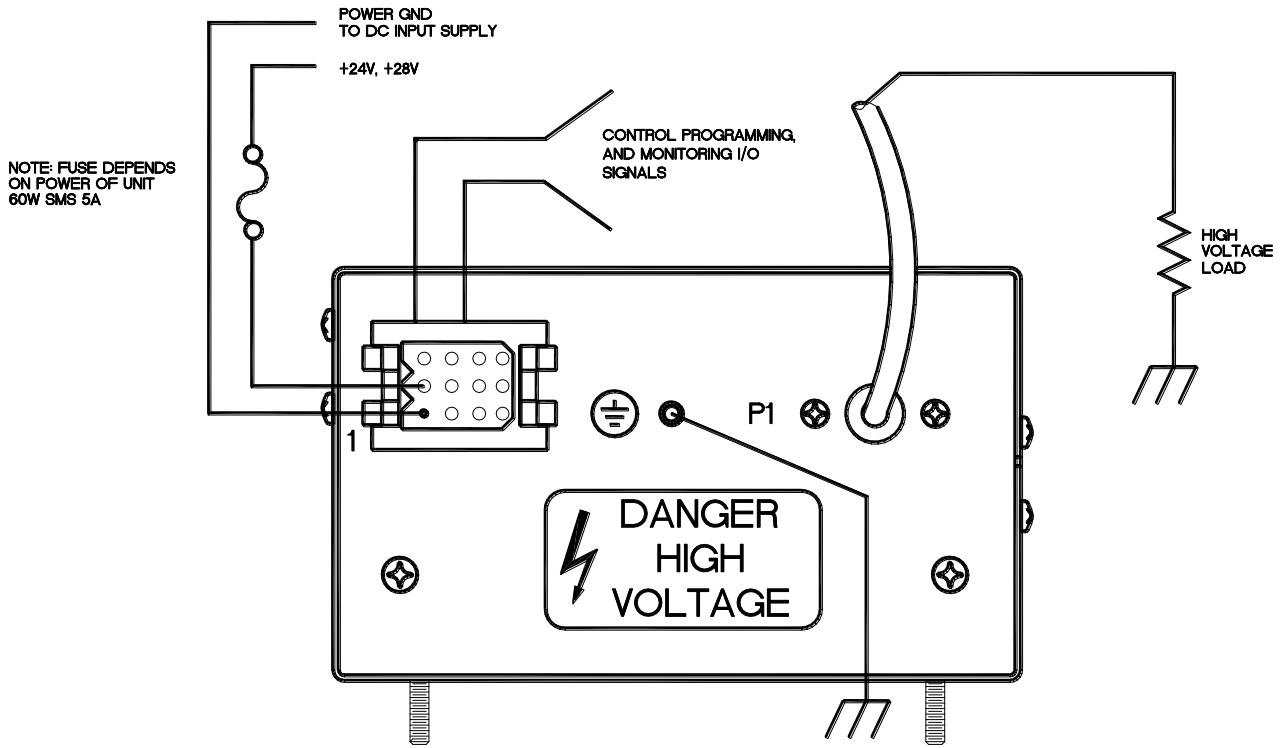

Figure 3.1 SMS Typical Operating Set Up
C) **PROPER GROUNDING TECHNIQUE:** The chassis of high voltage power supplies must be grounded, preferably to a water system ground using copper pipe or other earth ground. See Figure 3.1 for a typical operating setup. The return line from the load should be connected to the power supply chassis. Using a separate external ground at the load is not recommended.